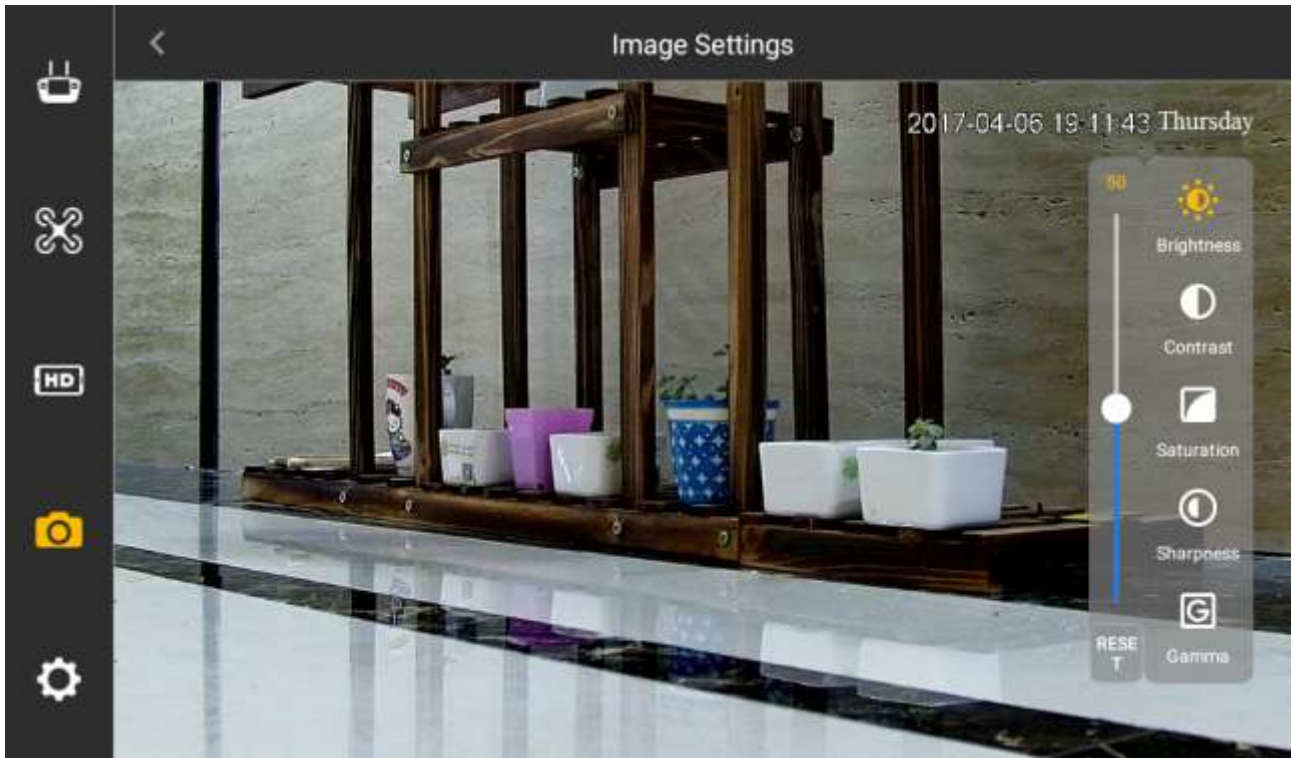

Figure 4-31
Step 1 Select "Settings > Camera Settings > Advanced Settings > Image Settings", and the system will display the interface of "Image Settings", as shown in Figure 4-31.